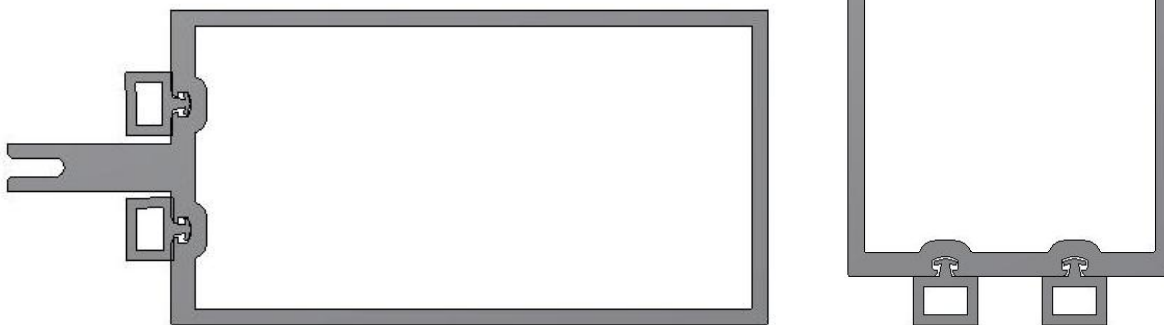

Figure 9: Attach spacers to the horizontal and vertical mullions.
- Install spacer PTB75 in reglet as shown in Figure 9. Make sure to leave room where horizontals meet verticals for shear block attachment.